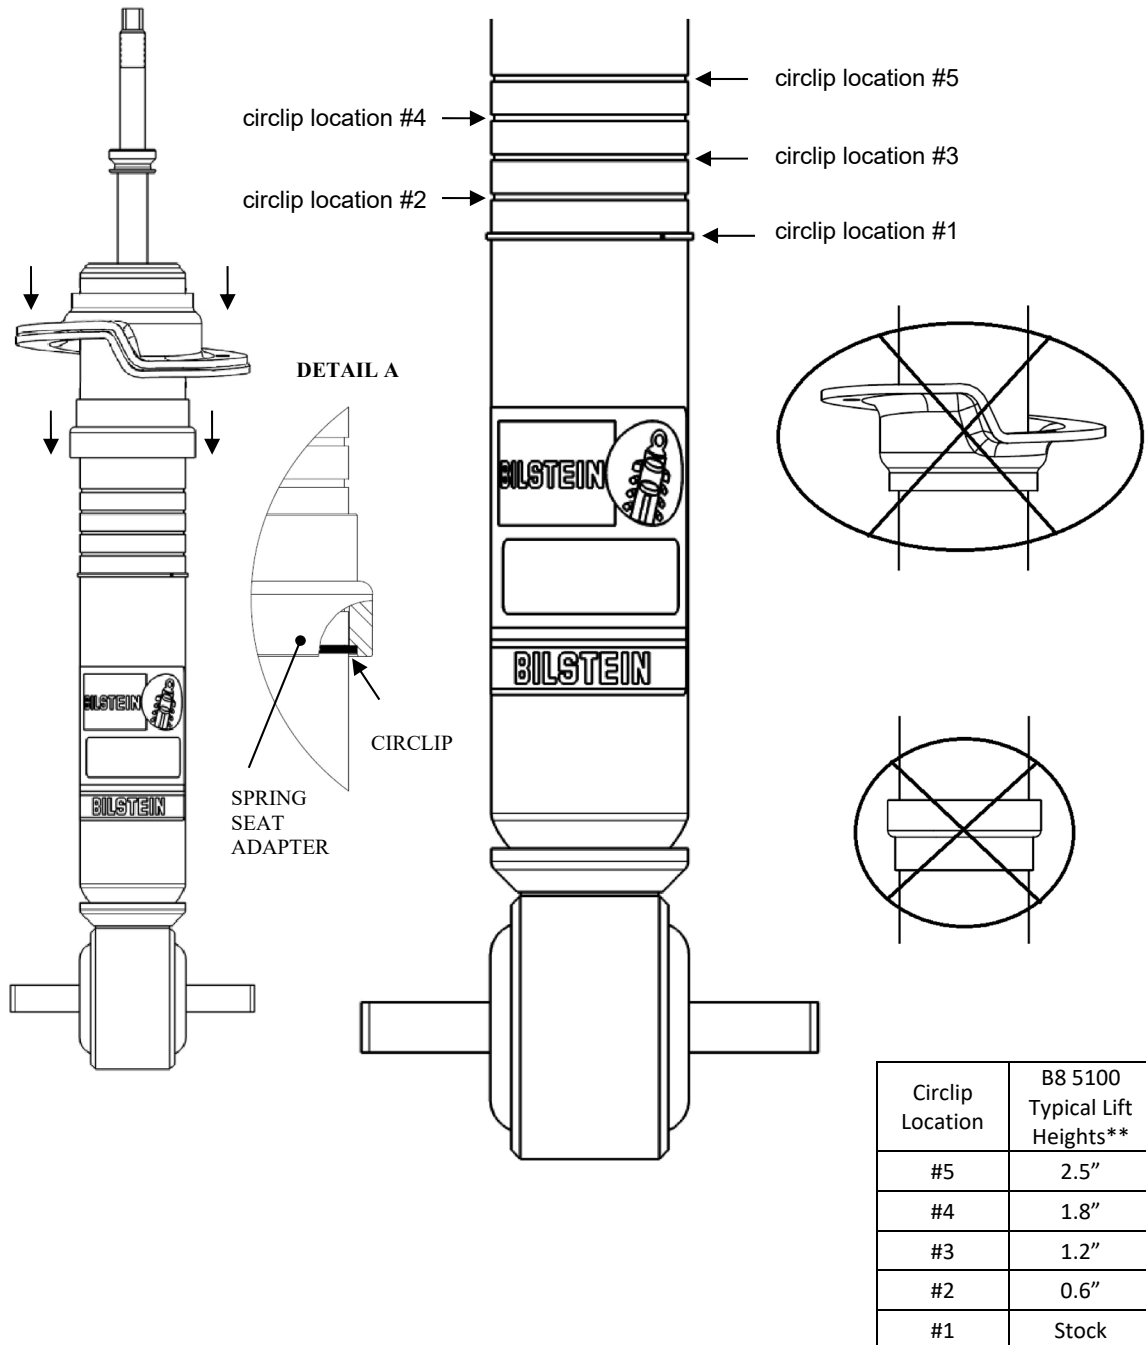

Figure 1
[Refer to Figure 1 on page 2 for steps F-H]
- G. Install the supplied spring seat support on to the new Bilstein shock (with the smaller end up) such that the groove inside the spring seat support fits over the circlip on the shock body as shown. Install the spring seat support in the direction shown only. The circlip must fit completely in the groove inside spring seat support (see DETAIL A, in Figure 1 on page 2). Improper installation will cause permanent damage to the shock.